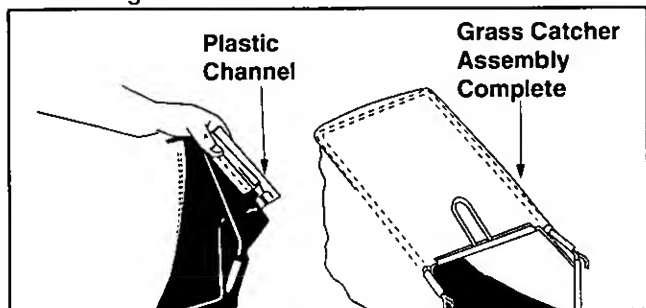

Figure 7
- Slip the openings in the side of the plastic channel on bag over the hooks on the grass catcher frame. Secure bag to the frame by working the six plastic channels on bag over frame. All the plastic channels attach from the outside of bag. See Figure 7.